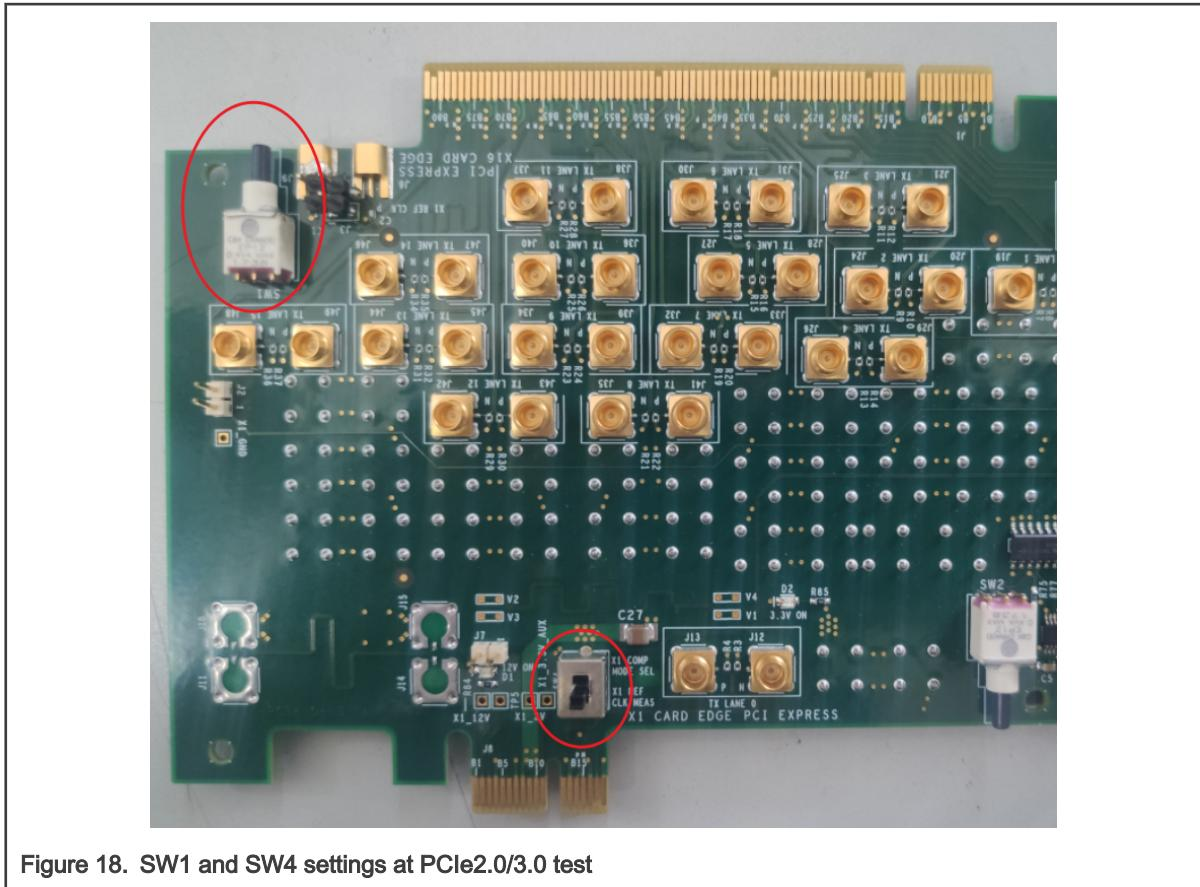

Figure 18. SW1 and SW4 settings at PCIe2.0/3.0 test
- b. Switch **SW4** to x1 COMP MODE SEL, as shown in Figure 18.